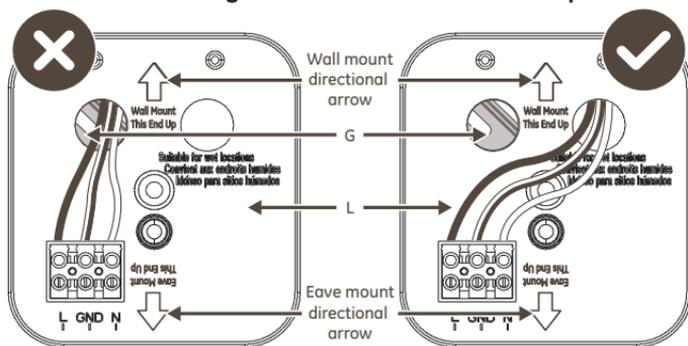

Figure 3
- Firmly pull on the mounting bracket (G) to ensure it is securely attached to the junction box. If necessary, use the screws that were removed from the existing light fixture to secure the mounting bracket (G).
- The back mounting plate (L) has pre-installed Line (black), Neutral (white) and Ground (green/yellow) wires with Push-in quick wire connectors (M).
- Observe the directional arrow on the back mounting plate (L) for the selected wall or eave mount installation (see Figure 3).
- Temporarily position the back mounting plate (L) with the selected installation Wall Mount or Eave Mount arrow in the indicated direction to determine the best hole in the back mounting plate (L) to route the wires to avoid contact with the installed mounting bracket (G) (see Figure 3). **DO NOT screw into place.**
- Pull the back mounting plate (L) away from the mounting bracket (G).
- If the wires did not pass through the hole in the back mounting plate (L) without contacting the mounting bracket (G), carefully pull the wires with Push-in quick wire connectors (M) through the back mounting plate (L) hole and insert through the other provided hole in the back mounting plate (L) (see Figure 3).
- b. Prior to making the electrical connections, ensure the previous **Step 7** is complete to route the electrical wires to avoid the mounting bracket (G) and route through the gasket (H) (see **Figure 3**).